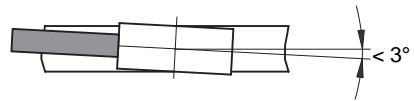

Fig. 6: Definition of counting direction / mounting
• **Sensor must be aligned correctly with respect to the counting direction** (see fig. 6). This can be ignored if counting direction can be changed via the follower electronics (eg. by magnetic display units from **SIKO**).
- When mounting the magnetic sensor, ensure that the gap between strip & sensor and the max. admissible deviation are maintained over the total measuring length! (see fig. 6)